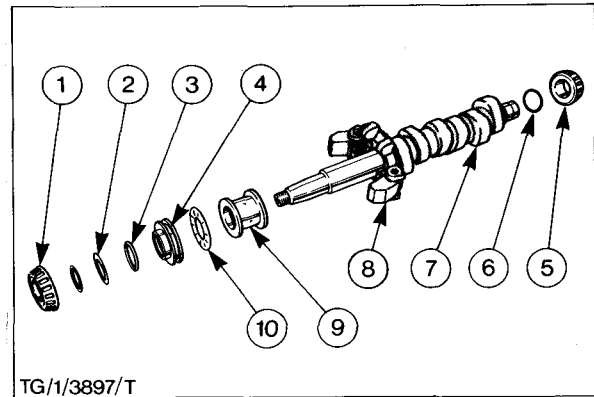

Fig. 45 - Camshaft and Governor Assembly (Dorset)
30. Slide the stop disc, spacer ring, thrust collar, thrust race and thrust sleeve off the camshaft (Fig. 45).